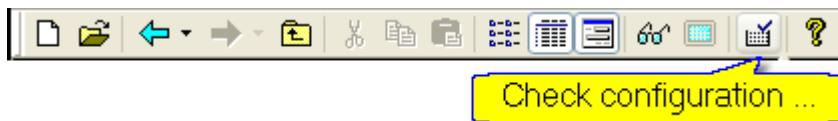

Figure 9: Check configuration.
1. Click on the **Tools** \Rightarrow **Check configuration...** menu item (toolbar item). (please see Figure 9 and 10)